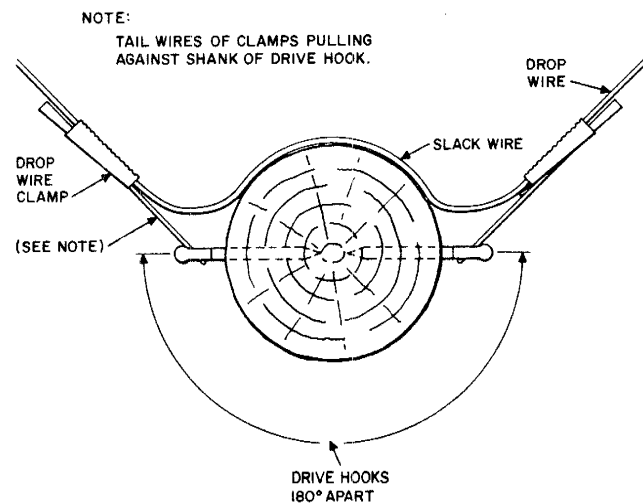

Fig. 5—Turning Outside Corner
**3.06** On outside corner poles where the angle would cause the drop wire to rub against the pole, use two drive hooks to support the wire as shown in Fig. 5.